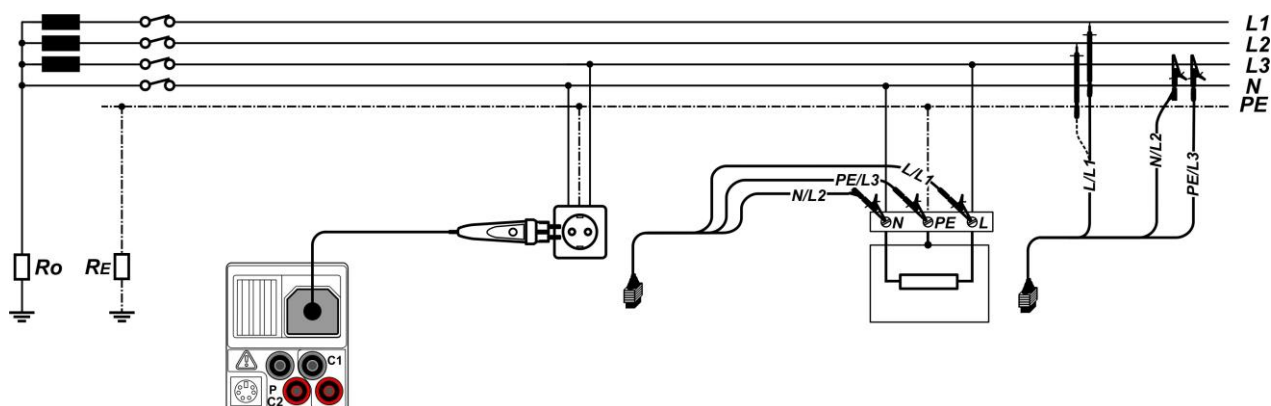

Figure 5.28: Phase-neutral or phase-phase line impedance measurement – connection of plug commander and 3-wire test lead
- ❑ **Connect** test leads to the item to be tested (see figure 5.28).